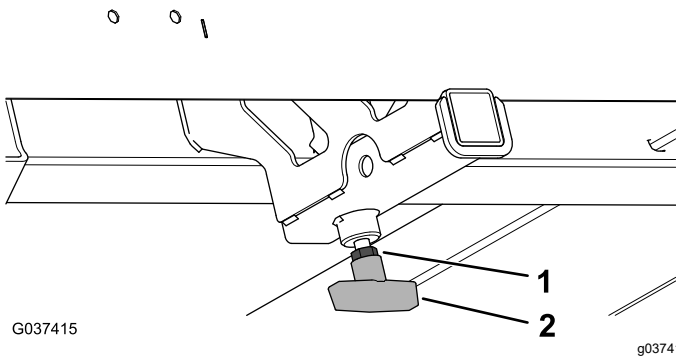

Figure 10
8. Tighten the jam nut (3/8 inch) fully against the T handle (Figure 10).